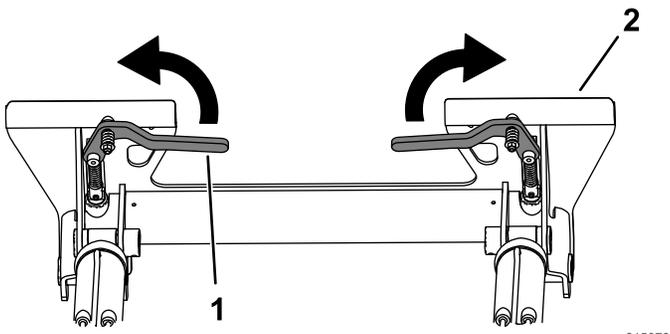

Figure 30
2. Rotate the quick-attach levers outward to raise the quick-attach pins (Figure 30).